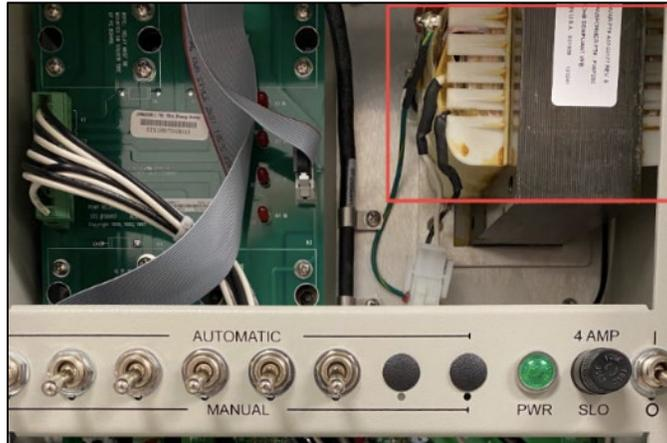

Figure 14 Inserting the Power Conditioner
- Slide the Power Conditioner through the top of the FMU and attach with the screws from Step 1 (Figure 14).